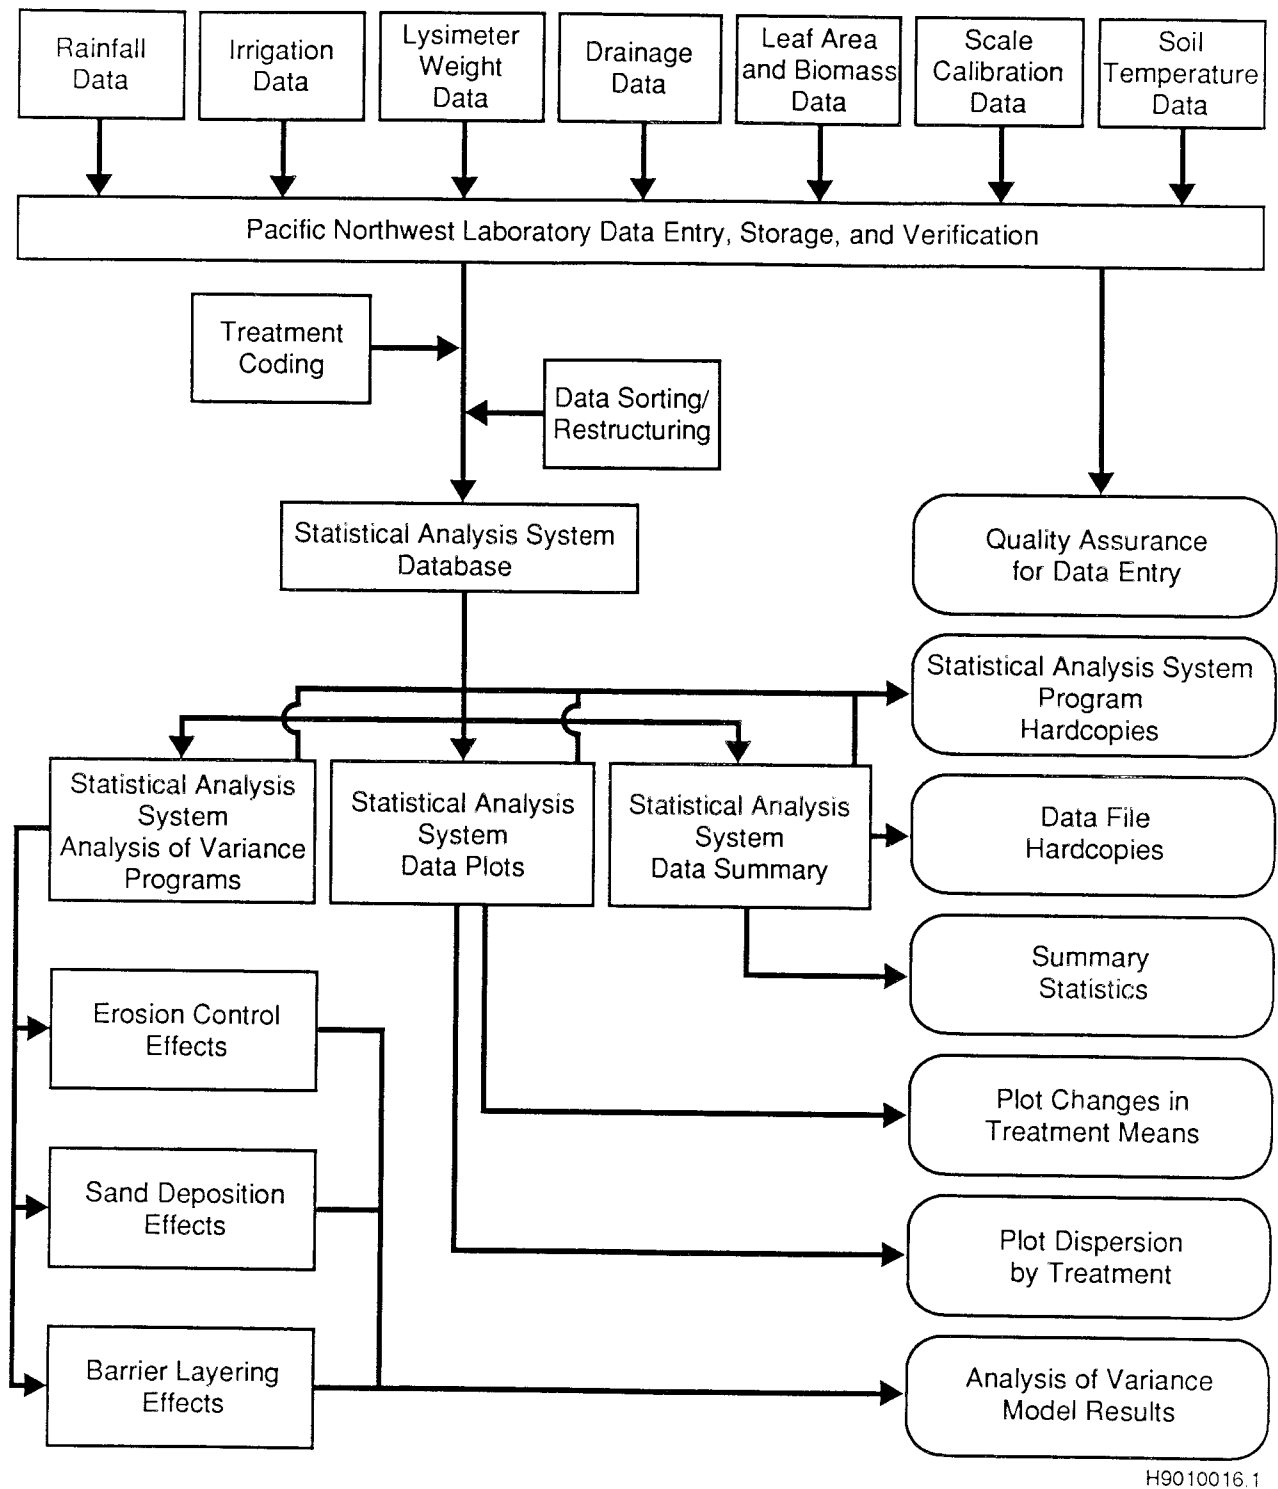

Figure 2-6. Data Analysis Structure of the Small-Tube Lysimeter Facility.
The data management structure is shown in Figure 2-6. All field data records are stored in a Quality Assurance (QA) impact level 3 project file in Room 35, the 331 Building, in the 300 Area of the Hanford Site. The lysimeter weight and soil temperature data are transferred to the ZVAX. Lysimeter weight data are entered on separate files for each sampling session. After editing and verifying entries, files are merged into a single file for analysis and graphics. This composite file can be accessed in the following manner: